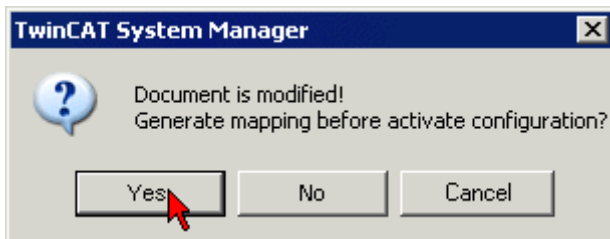

Fig. 4a: Generating variable mapping
- Confirming new variable mapping, restart in RUN mode (Fig. 4a + 4b)